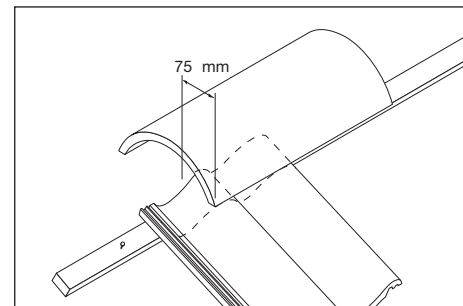

Fig. 3 – Fixing top (ridge) course batten
- 4 Fix top course batten so that ridge tile provides a minimum 75mm cover to top course tile (Fig. 3).